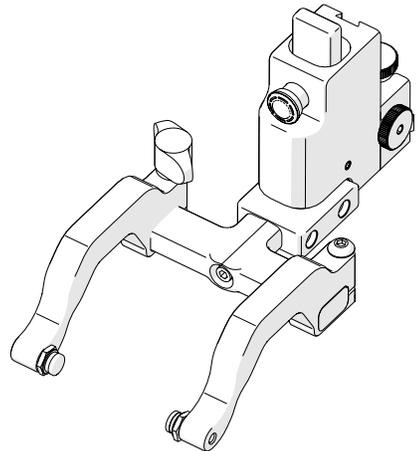

Fig. 121 - 90° probe holder positioning
2. Orient the yoke to the front of the probe holder and screw the yoke into the threaded hole provided (Fig. 121).